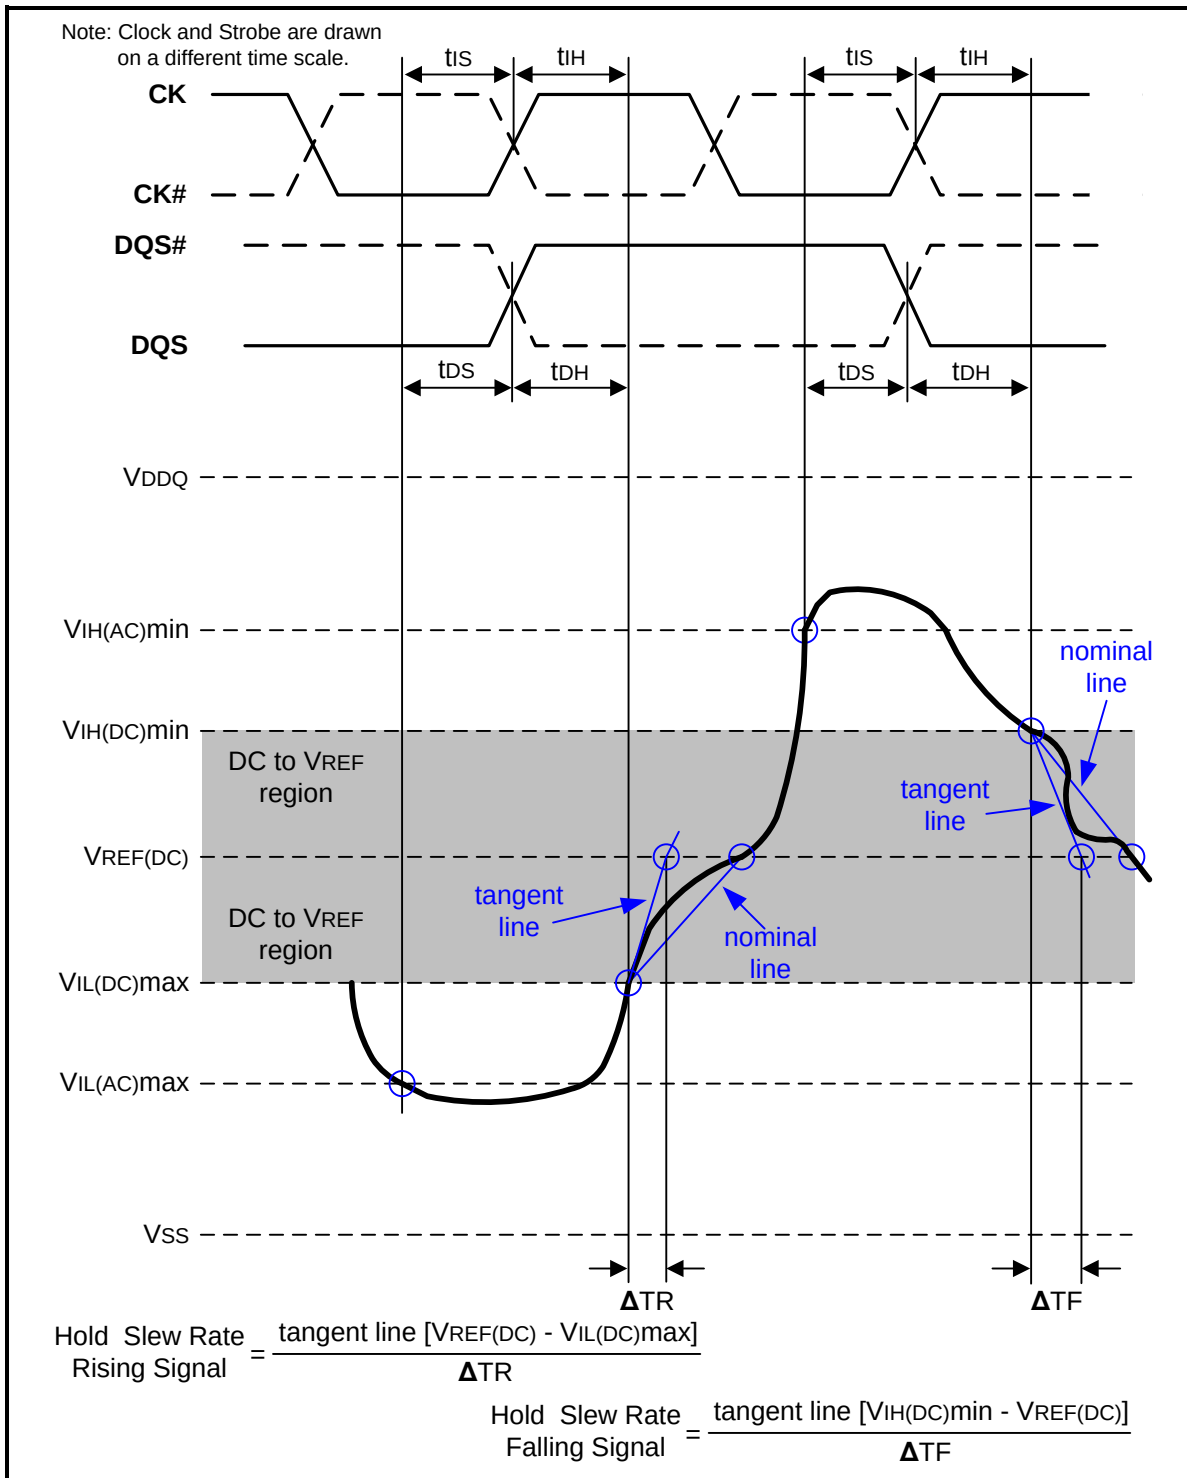

Figure 110 – Illustration of tangent line for hold time t_{DH} (for DQ with respect to strobe) and t_{IH} (for ADD/CMD with respect to clock)
Hold (t_{IH}) nominal slew rate for a rising signal is defined as the slew rate between the last crossing of $V_{IL}(\text{DC})_{\text{max}}$ and the first crossing of $V_{REF}(\text{DC})$. Hold (t_{IH}) nominal slew rate for a falling signal is defined as the slew rate between the last crossing of $V_{IH}(\text{DC})_{\text{min}}$ and the first crossing of $V_{REF}(\text{DC})$. If the actual signal is always later than the nominal slew rate line between shaded 'DC to VREF(DC) region', use nominal slew rate for derating value (see Figure 108). If the actual signal is earlier than the nominal slew rate line anywhere between shaded 'DC to VREF(DC) region', the slew rate of a tangent line to the actual signal from the DC level to $V_{REF}(\text{DC})$ level is used for derating value (see Figure 110).
Hold (tDH) nominal slew rate for a rising signal is defined as the slew rate between the last crossing of VIL(DC)max and the first crossing of VREF(DC). Hold (tDH) nominal slew rate for a falling signal is defined as the slew rate between the last crossing of VIH(DC)min and the first crossing of VREF(DC) (see Figure 108). If the actual signal is always later than the nominal slew rate line between shaded 'DC level to VREF(DC) region', use nominal slew rate for derating value. If the actual signal is earlier than the nominal slew rate line anywhere between shaded 'DC to VREF(DC) region', the slew rate of a tangent line to the actual signal from the DC level to VREF(DC) level is used for derating value (see Figure 110).